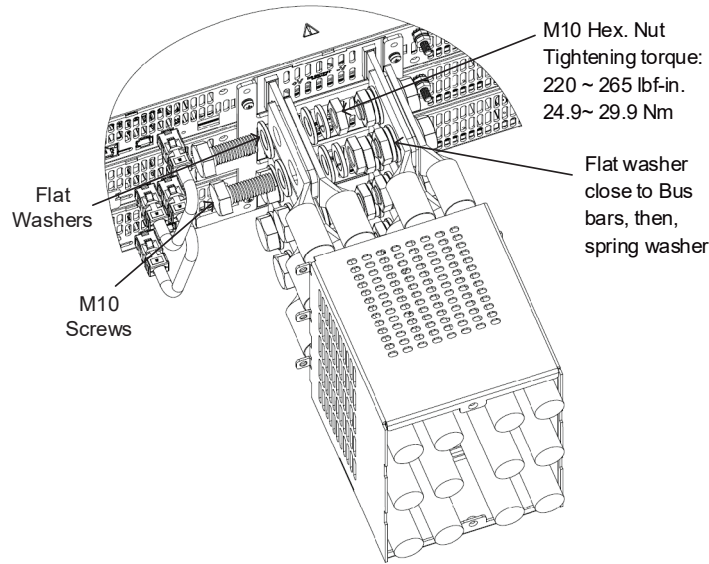

Figure 4-61: Assembly of 10V Wires
3. Fix the wires to the Bus bars as shown in Figure 4-61 (15kW is shown, it applies to 10kW as well).